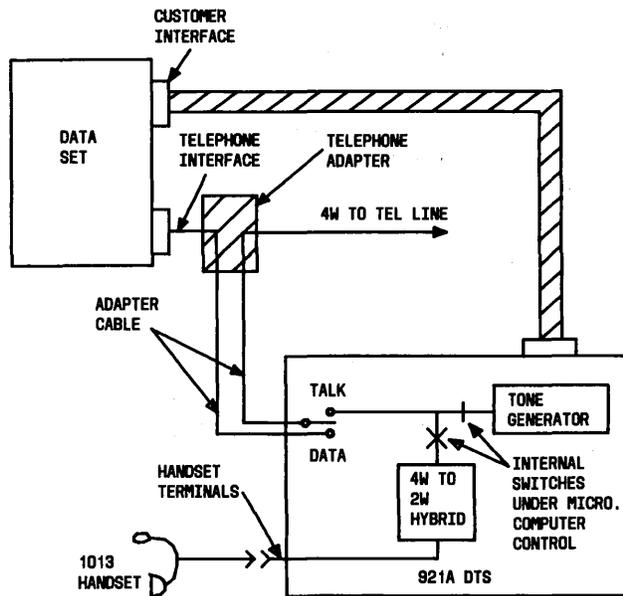

Fig. 11—TALK/DATA Switch—Functional Schematic
A telephone adapter and cables are provided with the DTS and must be used to obtain access to the line [central office (CO)] side of the data set (Fig. 11).